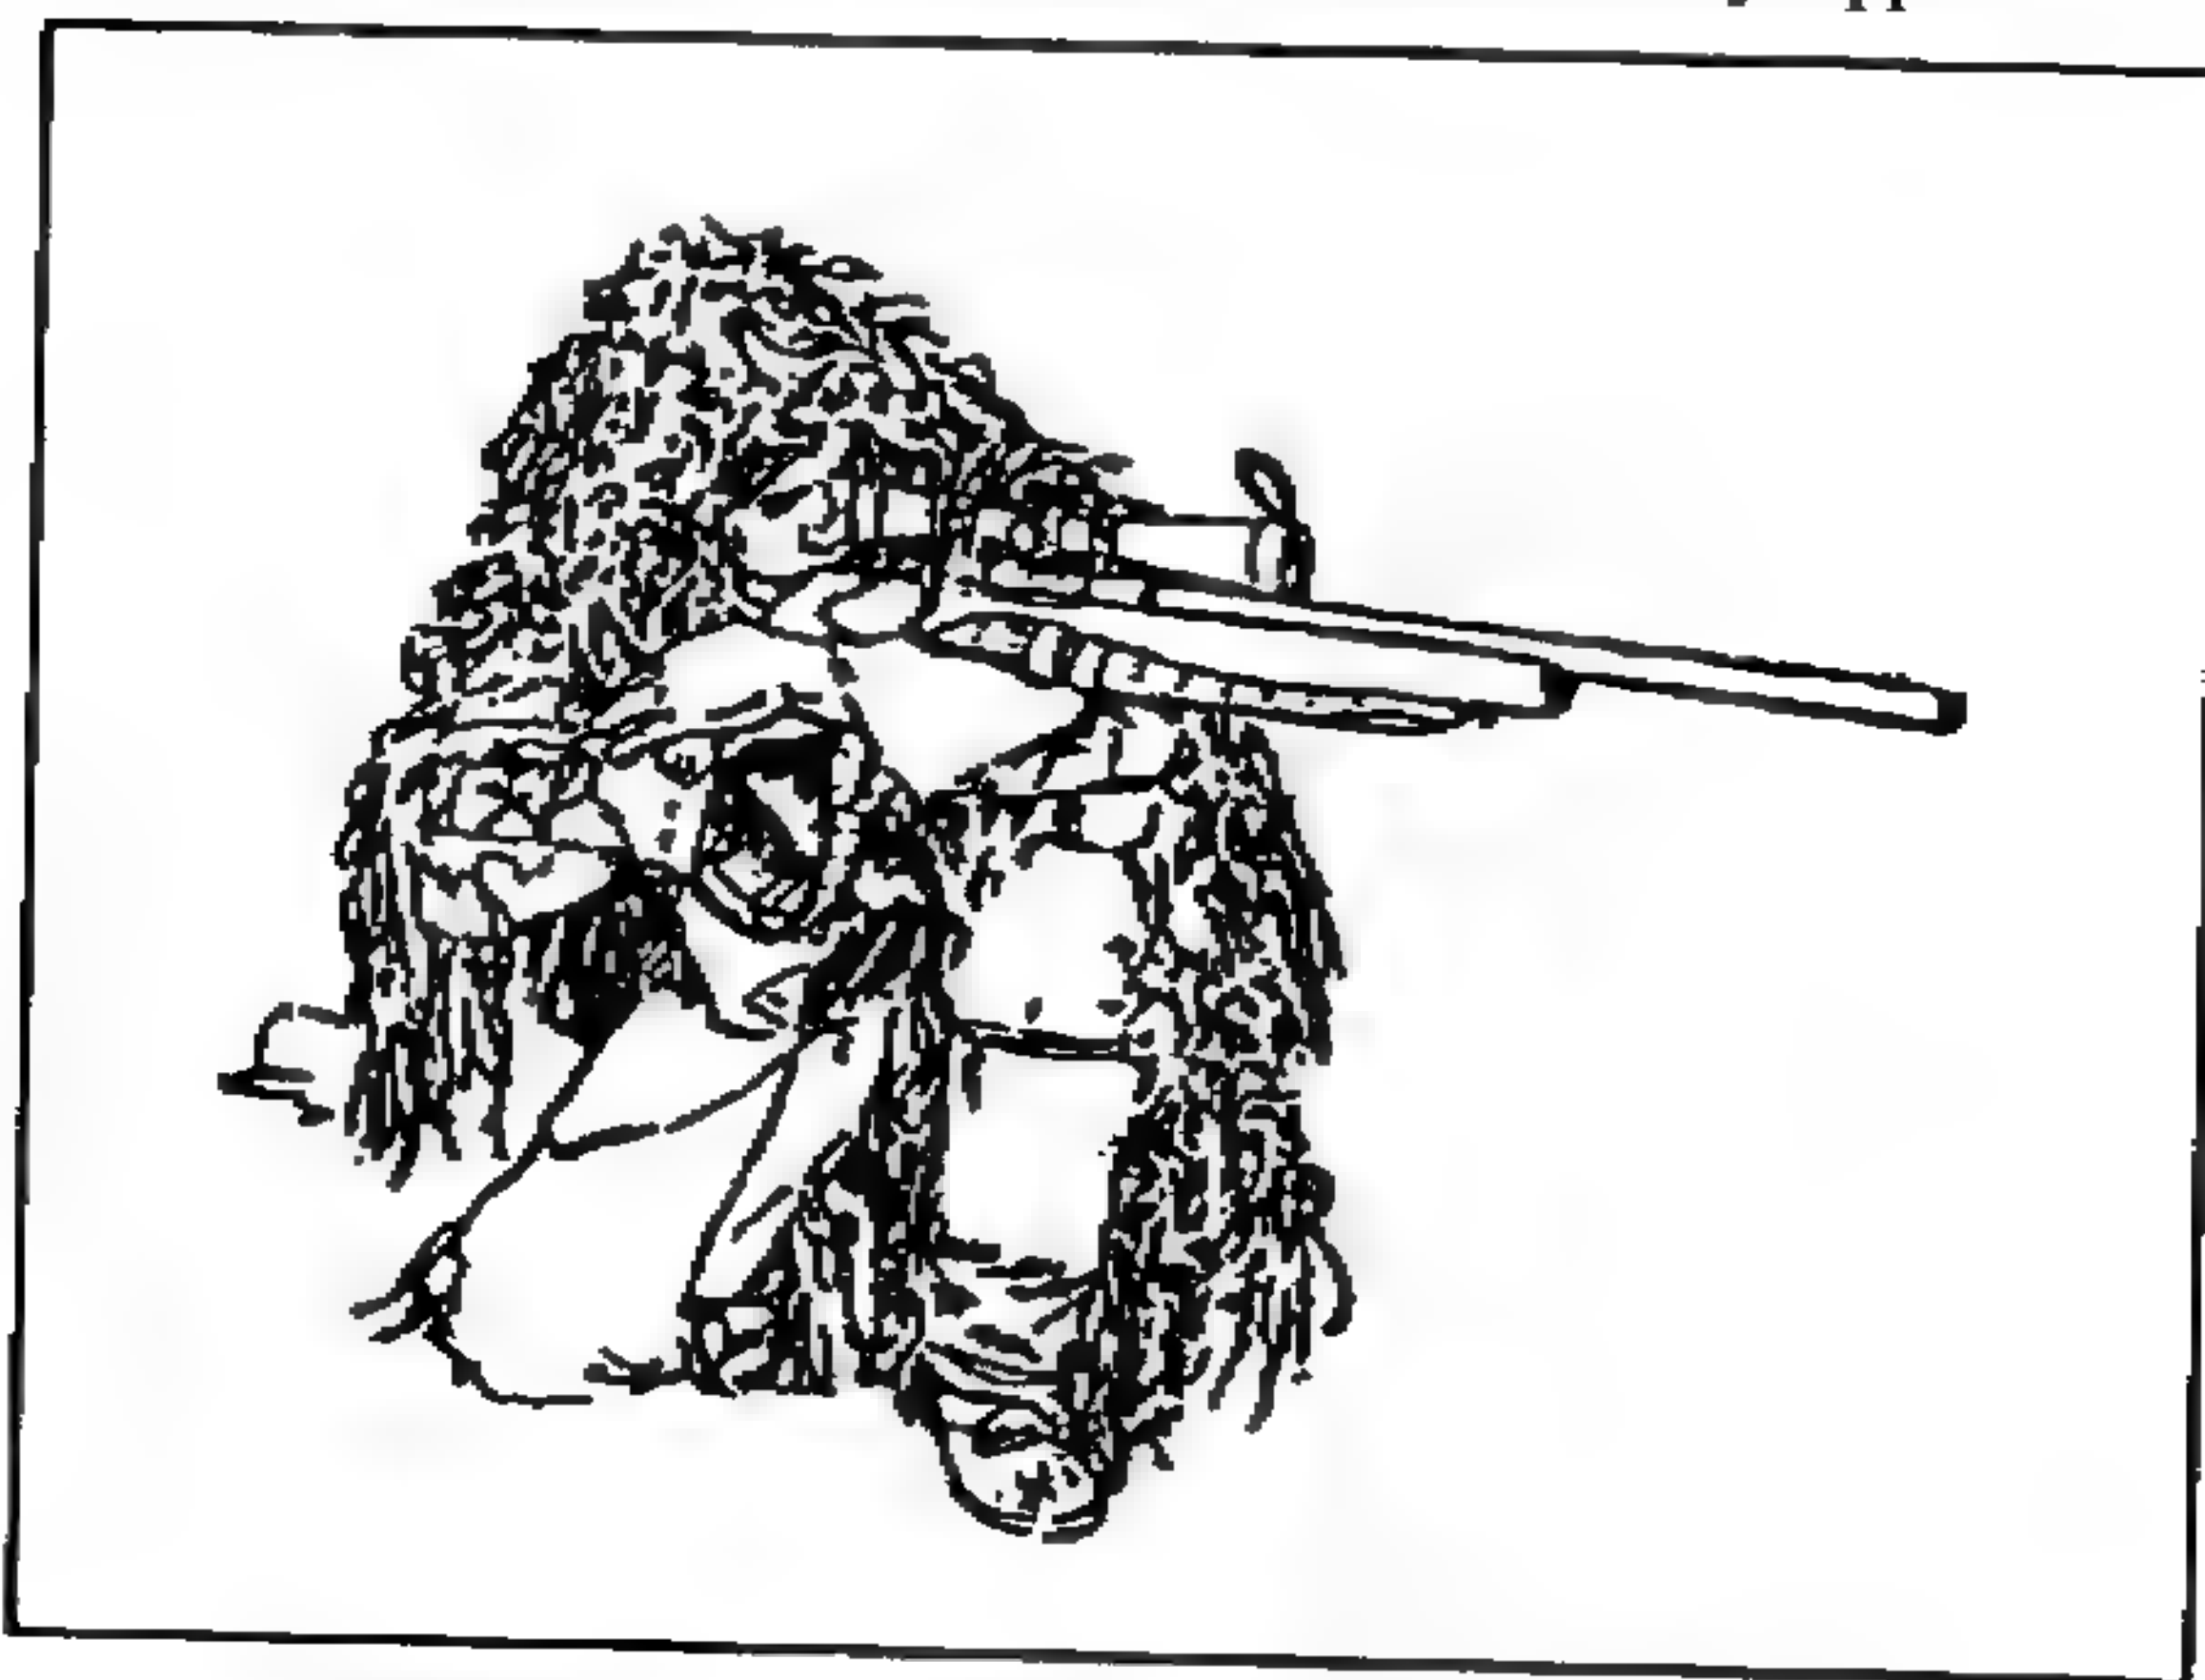

Figure 3-4. Kneeling unsupported position.
(3) **Kneeling unsupported position.** The kneeling unsupported position (Figure 3-4, page 3-6) is assumed quickly. It places the sniper high enough to see over small brush and provides for a stable position.